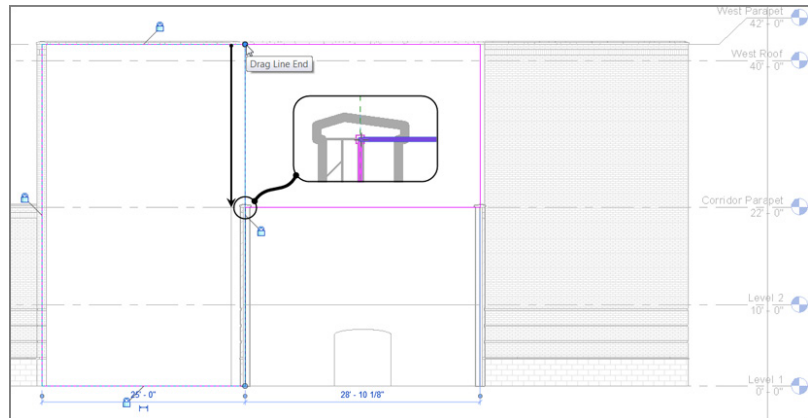

FIGURE 3.48: Closing the wall by using grips to stretch the line
14. You now have a closed loop, as shown in Figure 3.48.